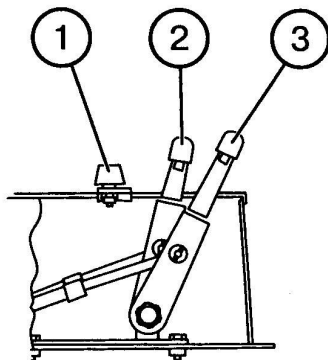
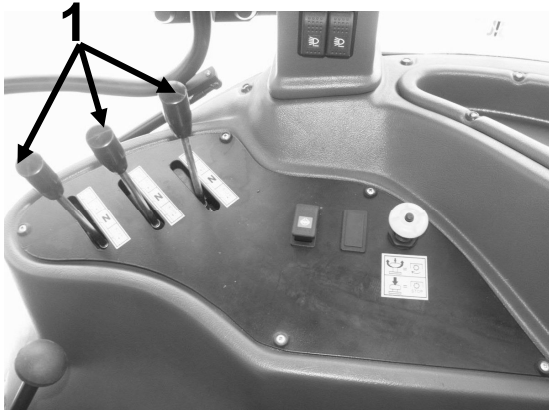

Fig. E-37 Rear hitch control levers + pictogram.
Fig. E-39 Control levers for external hydraulics.
- set the hydraulics control levers **1 (fig. E-39)** to „neutral” if machines (tools) co-operating with tractor’s external hydraulics are not used;
- set the hoist control lever **1 (fig. E-37)** for position adjustment to the range **(1 ÷ 9)**;
If any control lever for external hydraulics is set to other than “neutral” position (fig. E-39), operation of rear hitch levers (fig. E-37) is impossible.
The position adjustment is realised with the lever **2 (fig. E-37)**. When the position adjustment is on, the force adjustment lever **3** should be in position „9” on the pictogram and is not used then.
While working with a machine, which requires sinking into the ground first lower the tool with the position adjustment lever **2** to the position 9 on the pictogram (**fig. E-37**), and then, when the tractor moves, with the force adjustment lever **3** select required working depth. While driving out from a furrow and to lift or lower the rear hitch use only the position adjustment lever **2**, leaving the force adjustment lever **3** in previously set position. Then during next sinking of the tool we shift the position adjustment lever **2** extremely forward (to the position „9”) and the settings of force adjustment remain unchanged.
If on heterogenous soils of variable resistance it is impossible to obtain uniform working depth, reduce the working depth with the position adjustment lever **2 (fig. E-37)**. The digit „1” on the pictogram means maximum tool height above the ground by which the machine can be raised, the digit „9” – minimum height.